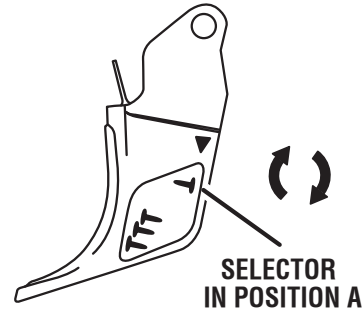

Fig. 11
See Figures 11 - 12.
- Rotate the selectable trigger knob on the trigger to Single Sequential Actuation operation, Position A, as shown in figure 11. No air should leak from the tool.